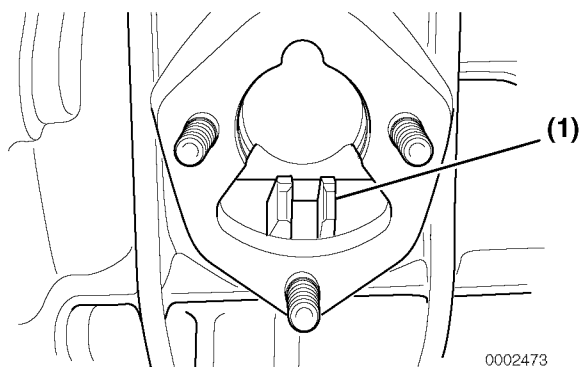

Figure 7-17
1. Adjust the throttle control so the governor lever (**Figure 7-17, (1)**) fork is positioned in the center of the fuel injection pump opening.